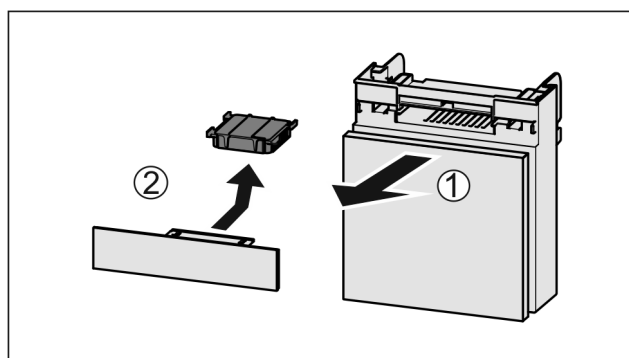

Fig. 192
- Pull out the compartment Fig. 192 (1).
- Remove the carbon filter Fig. 192 (2).